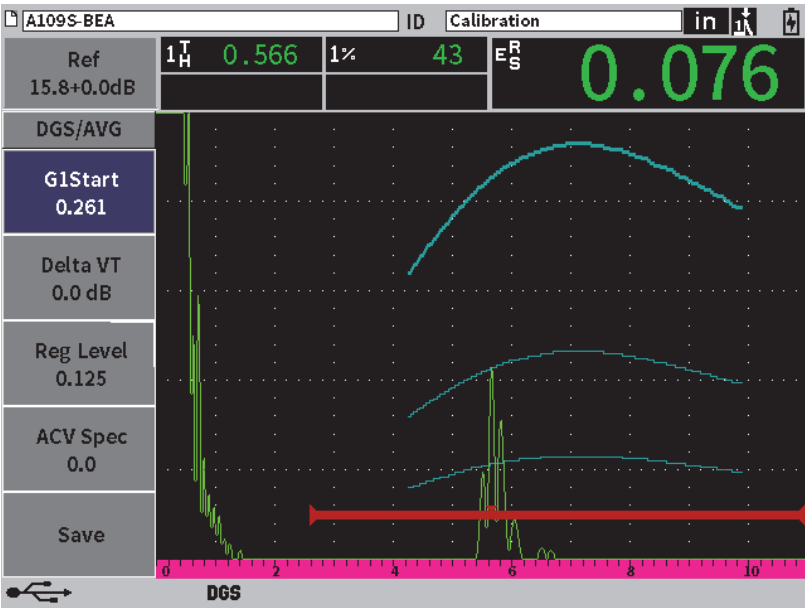

Figure 11-21 DGS/AVG curves on the screen
After capturing the reference reflector, the EPOCH 6LT automatically calculates the DGS/AVG curve(s) and displays them at the correct registration level amplitude on the screen (see Figure 11-21 on page 197).
1. On the DGS/AVG submenu, press the Tab key to select **Delta VT** (see Figure 11-21 on page 197).